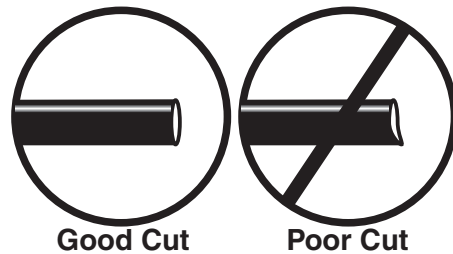

fig. 13
WHEN CUTTING OR TRIMMING THE AIR LINE, USE A HOSE CUTTER, A RAZOR BLADE, OR A SHARP KNIFE. A CLEAN, SQUARE CUT WILL ENSURE AGAINST LEAKS. DO NOT USE WIRE CUTTERS OR SCISSORS TO CUT THE AIR LINE. THESE TOOLS MAY FLATTEN OR CRIMP THE AIR LINE CAUSING IT TO LEAK AROUND THE O-RING SEAL INSIDE THE ELBOW FITTING (FIG. 13).
- a. Check the air line connection by deflating the spring and removing the line by pulling the collar against the fitting and pulling firmly on the air line. Trim 1" off the end of the air line. Be sure the cut is clean and square (see Fig. 13). Reinsert the air line into the push-to-connect fitting.